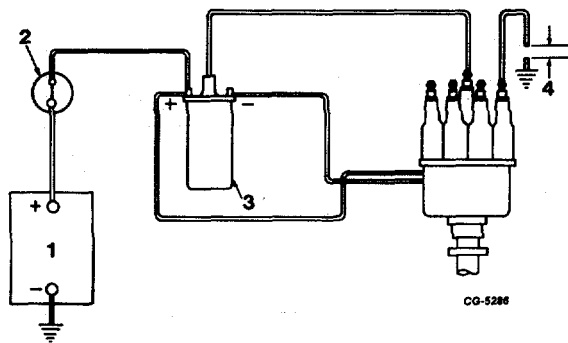

Fig. 48 Checking for Spark at Plug
Disconnect high tension cable from one spark plug. (always grasp spark plug boot and use a twisting motion when removing plug cables so as not to destroy resistance wire termination.) Insert extension adaptor into boot and engage in cable terminal. Using insulated pliers, hold plug cable to create about 13 mm (1/2") gap between extension adaptor and engine (Figure 48). Have an assistant crank engine. Observe for spark across gap.
3. Test for spark at distributor cap. Disconnect high tension cable from center tower terminal of distributor cap. Insert extension adaptor into boot and engage in cable terminal. (Figure 45) using insulated pliers, hold cable to create about 13mm (1/2") gap between cable terminal and engine (Figure 48). Have an assistant crank engine. Observe for spark across gap.